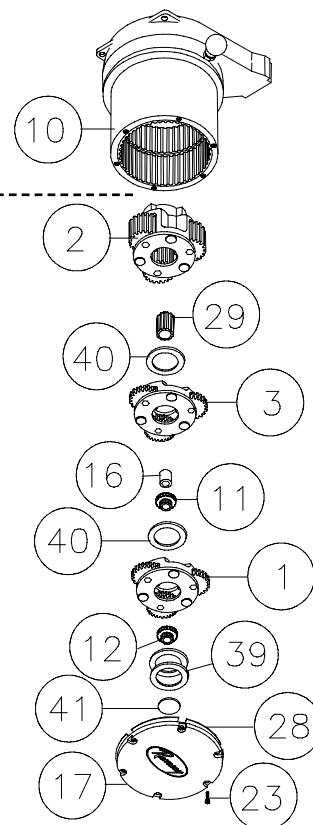

Figure 2
3. Gently lift the Gear Housing assembly, working the gears, bushings, etc. that are inside the Gear Housing out so that they are left stacked on the workbench. See Figure 2.
4. Turn the Gear Housing assembly over and set on workbench. Remove the Retainer (item #37) by removing six capscrews (item #21) from Gear End Bearing (item 13). Once the retainer is removed, the Ring Gear (item #10), Cam Ring (item #36), and Locking Ring (item #34) can be lifted off the end bearing.